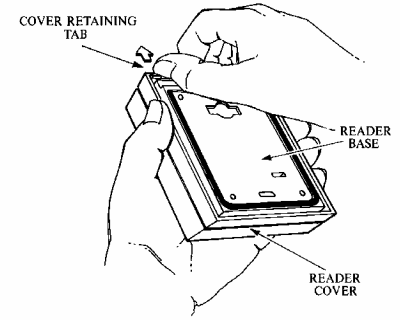

Figure 3
- 1 Hold the reader in the palm of your hand with the base facing up, and with the card insertion slot pointing away from you, as shown in figure 3.